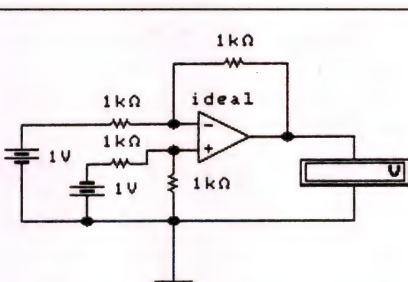

Fig. 5.15 Differential amplifier circuit (Assignment 5.1).
- Reverse one of the battery connections as shown in Fig. 5.15. This connection produces an inverting input of $+1\text{V}$ and a non-inverting input of -1V . Once again, record the output voltage in Table 5.8.